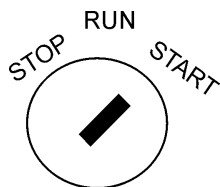

Figure 24. Ignition Switch (START)
7. For 1999 Version: Turn the key to the right to 'Start' (Figure 24). Once the engine starts, release the key.